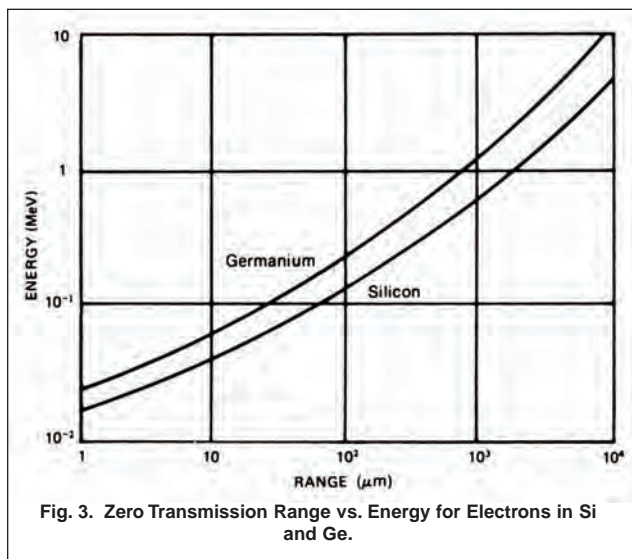

Fig. 3. Zero Transmission Range vs. Energy for Electrons in Si and Ge.
3. Again because of their light mass, electrons are so intensely scattered that their trajectory in the material is a jagged line; therefore, the concept of range as previously used cannot be applied. Rather, the concept of zero-transmission range is introduced. This is done by means of absorption experiments, which permit definition of the absorber thickness resulting in zero-electron transmission at a given energy. Figure 3 shows the zero-transmission range as a function of energy in silicon and germanium.